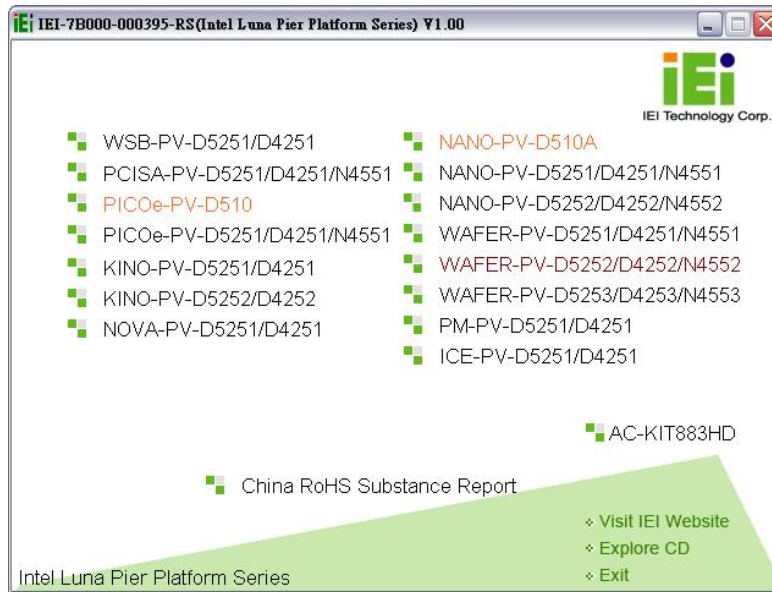

Figure 4-20: Introduction Screen
Step 2: The driver main menu appears (Figure 4-20).